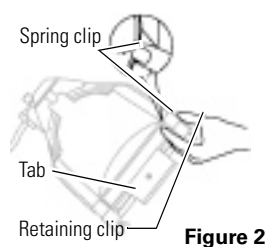

Figure 2
5. Press the spring clip with your finger to release the lens (**Figure 2**).
2. Position the fixture with the front of the unit (the lens side) facing you, and tilted slightly (**Figure 2**).